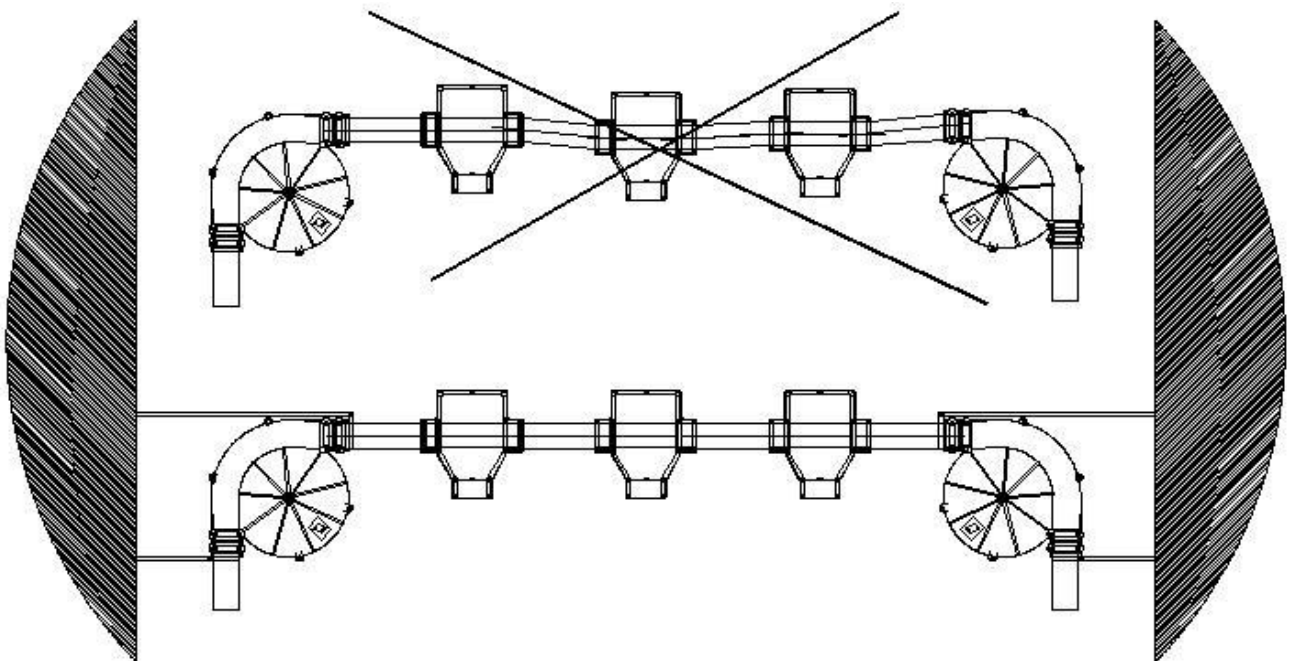

Fig. 75 Mounting of Feedvalves
- Make sure that the conveyor pipes and the valves are hung correctly; this means that they have to hang completely free and in a straight line.(Fig.75)